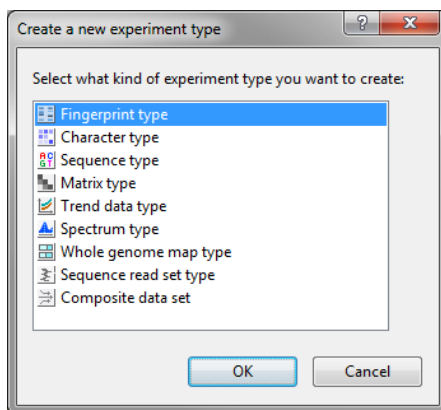

Figure 3.2: The *Create a new experiment type* dialog box.
- 2.1 In the *Main* window, click on  in the toolbar of the *Experiment types* panel and select **Fingerprint type** from the list (see Figure 3.2).